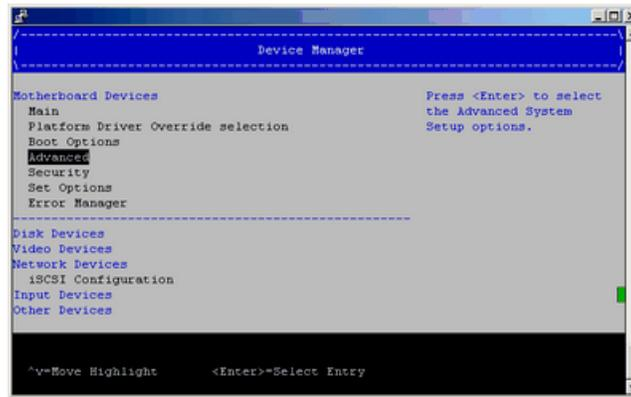

Figure 4-7 Device Manager with Advanced Option Screen
2. From the **Device Manager** screen, select **Advanced**, as shown in Figure 4-7 on page 57.